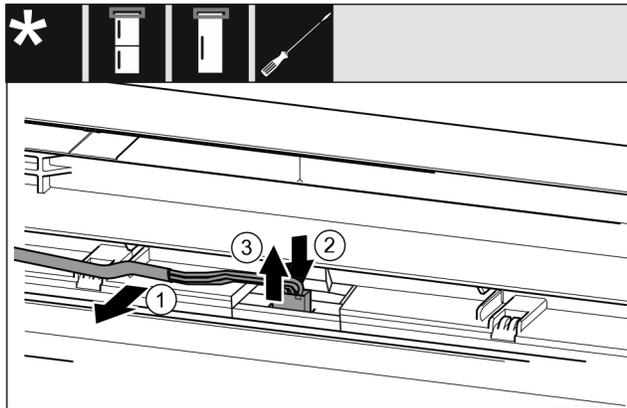

Fig. 18
- ▶ Carefully remove the gray cable from the guide in the door. *Fig. 18 (1)*
- ▶ Press the lug behind the plug backward. *Fig. 18 (2)*
- ▶ Carefully pull out the plug upward. *Fig. 18 (3)*